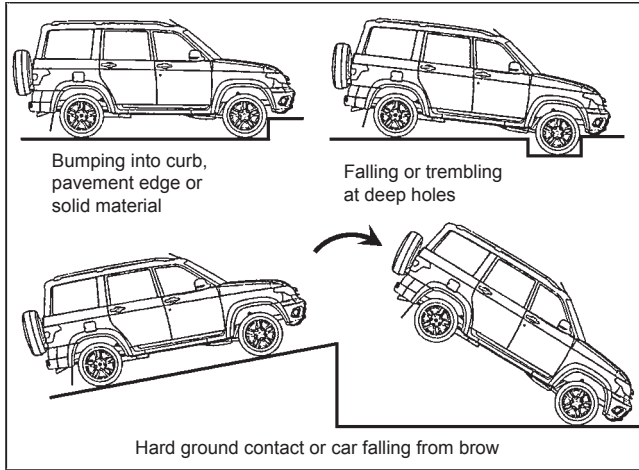

Fig. 3.36. Examples of situations when the driver and front passenger passive safety system actuates
- in case of a sufficient force of front impact on the vehicle, some examples are shown on (Fig. 3.36).